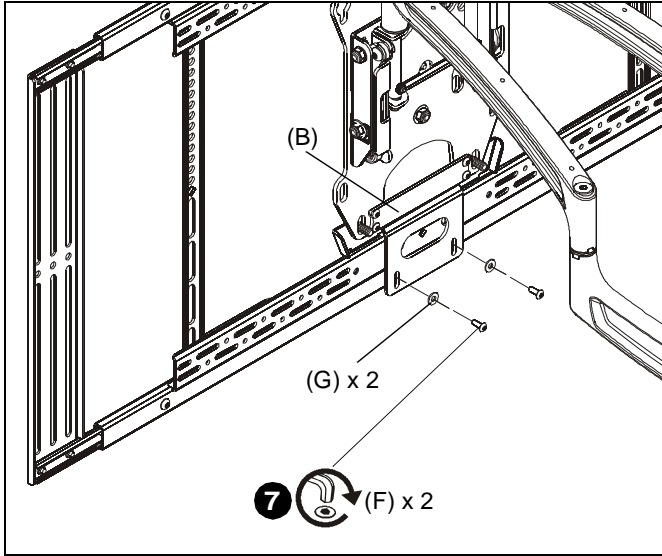

Figure 9
- Use two #10-24 x 1/2" button head cap screws (F) and two #10 washers (G) to connect lower horizontal bracket (A) to either attachment bracket (B), TA350 bracket (if also using center channel) or other accessory bracket. See corresponding installation instructions for details if another bracket is being installed. (See Figure 9)